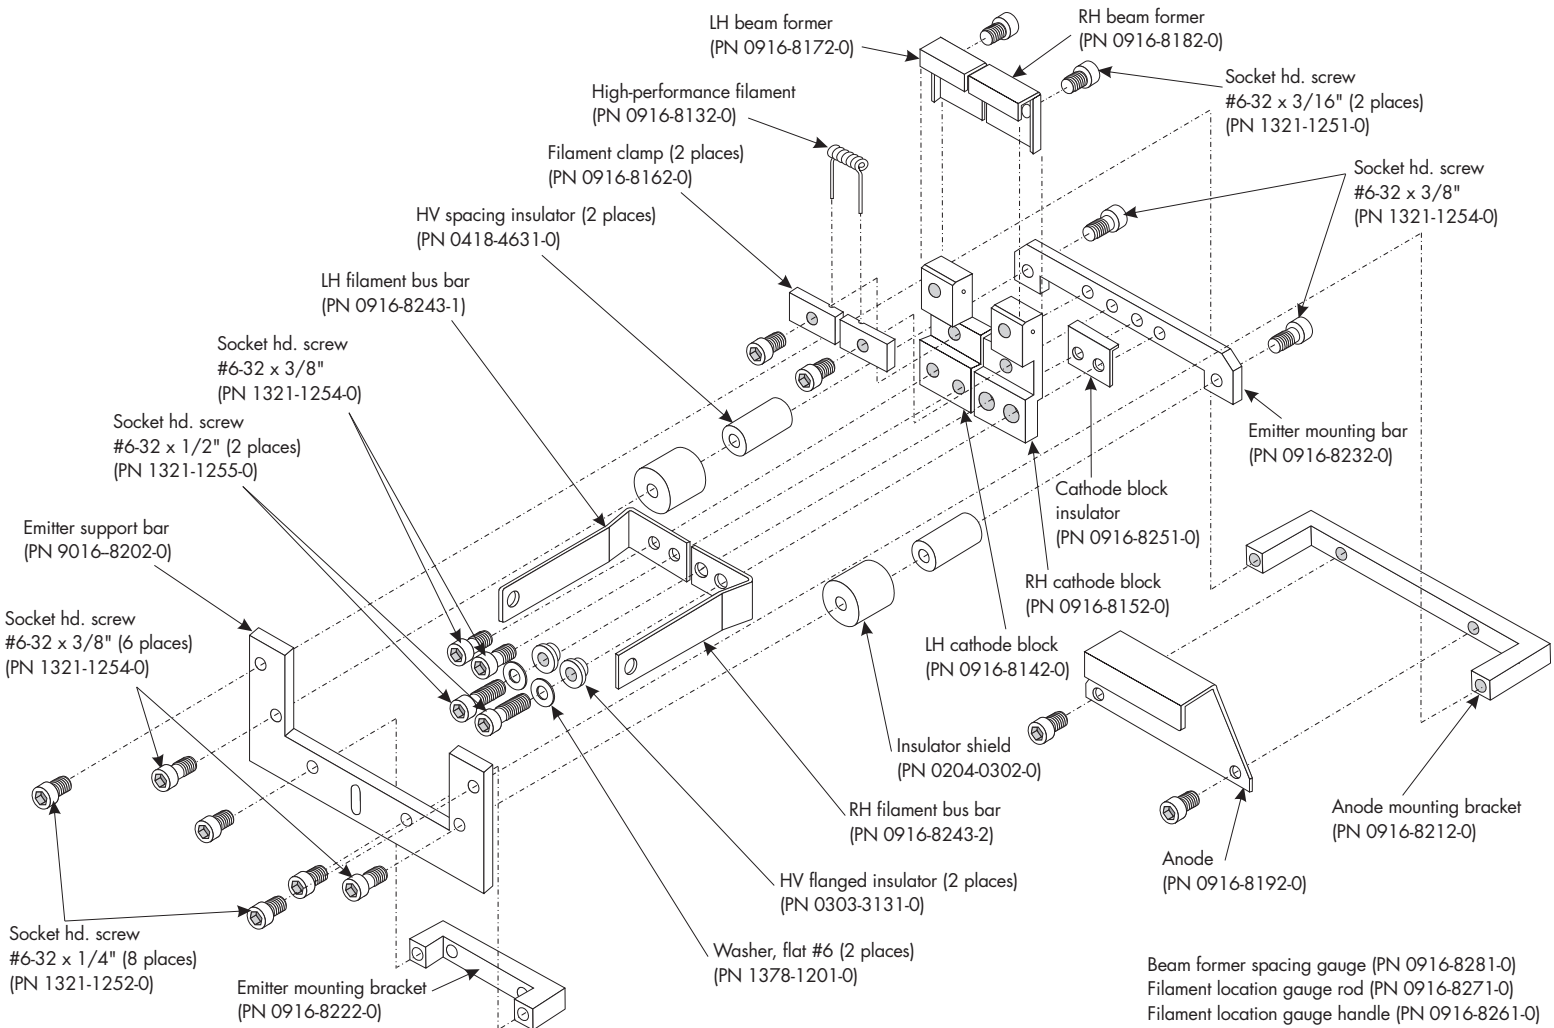

Figure 5-3. Exploded view of high-performance emitter
2. Examine all screws as you disassemble the emitter and replace any that show signs of thread damage or distortion. Damaged screws are likely to become frozen in place during subsequent source operation, resulting in breakage or thread stripping the next time you attempt to remove them. Coat all screws that you do reuse with molybdenum disulfide (ROCOL or equivalent). When replacing screws, use only stainless steel 6-32 socket-head screws of the correct lengths (see Figure 5-3). All screws must be vented so as to create a path through which gases trapped between the threads can be pumped out. To minimize virtual leaks, it is important that the underside of the screw's head as well as its threads be vented. For best results, use the screws that are available from Temescal, as they come machine vented in the correct manner.